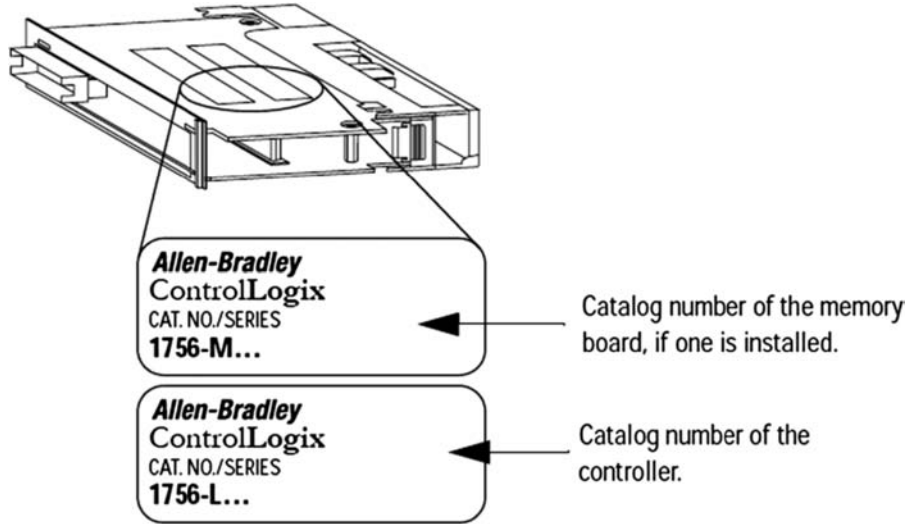

Figure 1-12 Location of catalog numbers for memory and processor. (Courtesy of Rockwell Automation, Inc.)
Some CLX CPUs have memory boards. Memory is available for some CPUs up to 7.5 megabytes (MB). Some controllers support a removable CompactFlash card for nonvolatile memory. Figure 1-12 shows the location of the specific information about the controller and the memory board on a CLX processor.